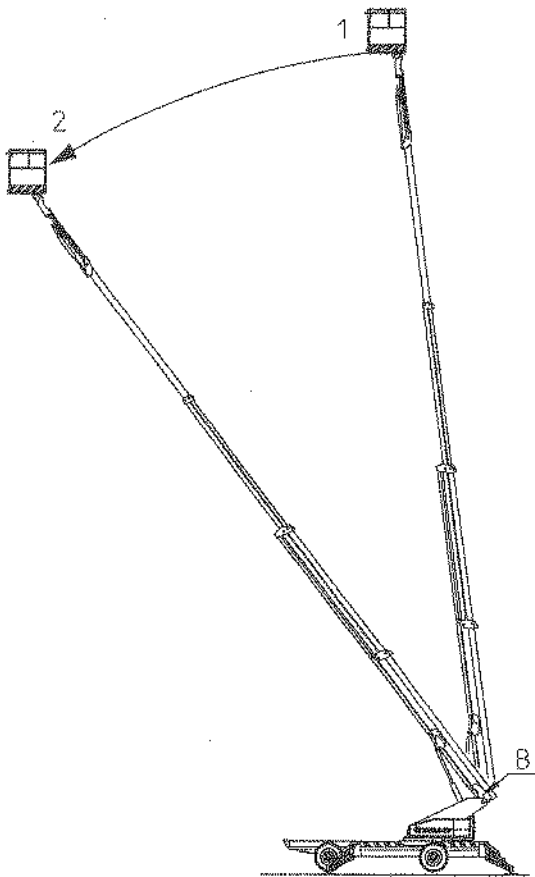

Figure 9-7. Checking the lifting radius
2. With the booms raised all the way, extend the boom extensions fully with the telescope (figure 9-7, position 1).
3. Then lower the booms with the lowering push-button until the load control stops the movement (figure 9-7, position 2).